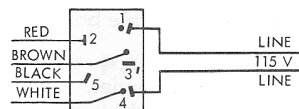

Figure 4
- For operation on 115-volts, the ungrounded supply line is connected to terminal No. 1; the Red motor lead (with quick connect) is connected to terminal No. 2; the Black motor lead (with quick connect) to terminal No. 5; the Brown motor lead (with eyelet) to terminal No. 3; the White motor lead (with eyelet) to terminal No. 4; and the grounded line is also connected to terminal No. 4. (See figure 4.)